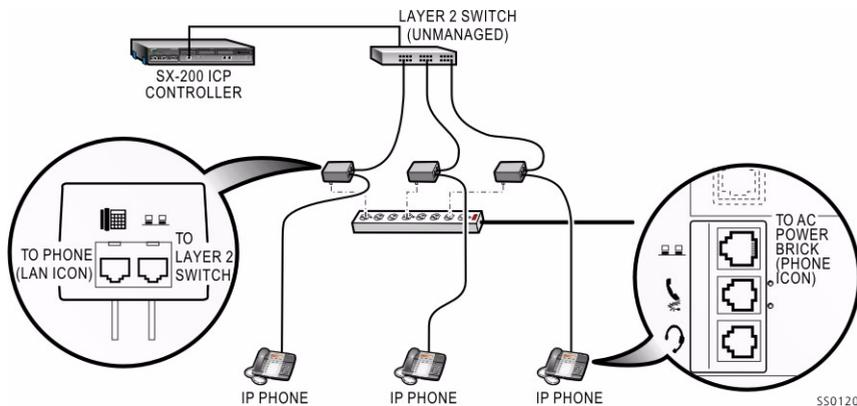

Figure 6: Power Brick Connections for 5200 Series IP Phones
- an external supply such as a 24-volt adapter (required by the 5010 and 5020 IP Phone; connects to back of phone) or 48-volt power brick (required by 5200 series IP Phones; see Figure 6 for connections).